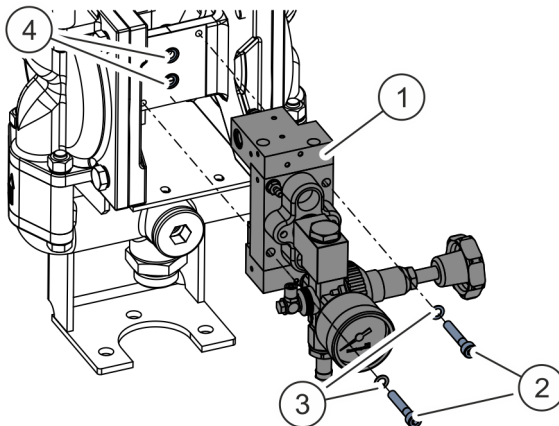

Fig. 12: Pressure controller
5. ➤ Unscrew the screws (Fig. 12/2) and remove locking washers (Fig. 12/3).
6. ➤ Remove the complete unit from the pump with the pressure controller (Fig. 12/1).
7.  Remove the seals (Fig. 12/4).